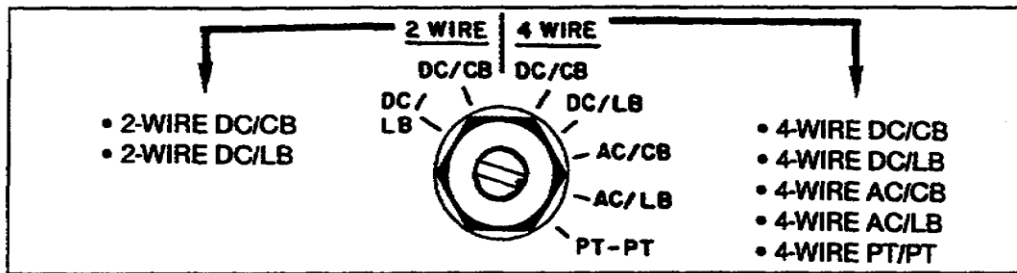

Figure 1-17. MODE SELECT switch.
- a. Set the MODE SELECT switch to AC/LB. Use a screwdriver or a coin. (See Figure 1-17.)